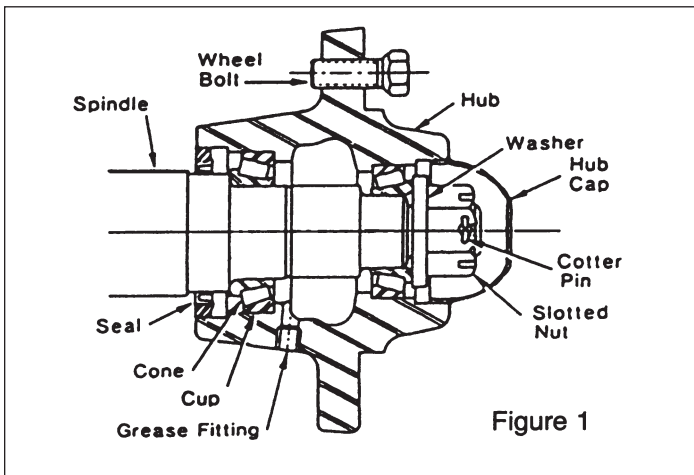

Figure 1
5. Reassemble hub and bearings. (fig 1)